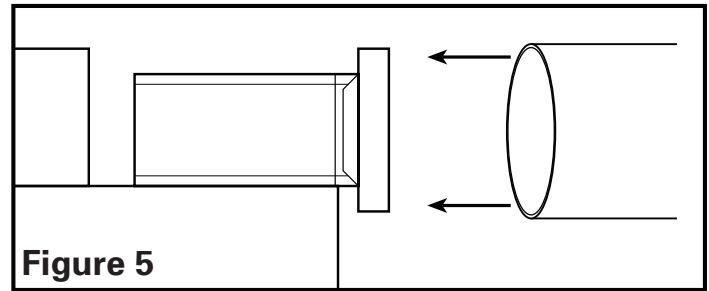

Figure 5
1. Remove any tape that might be holding the damper in place during shipping and connect the ducting to the fan's duct collar (**Figure 5**). Secure in place using tape or screw clamp. Always duct the fan to the outside through a wall or roof cap.